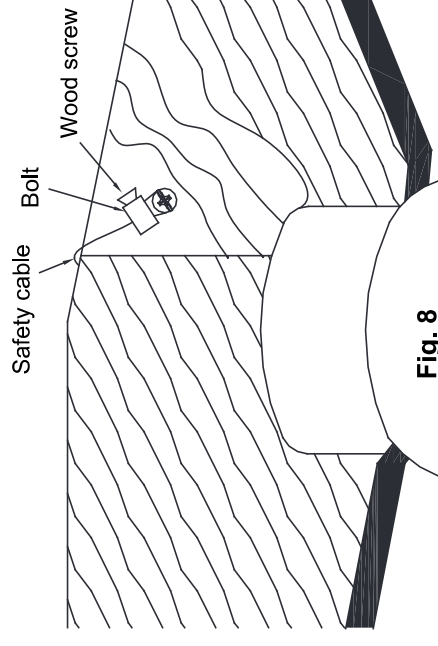

Fig. 8
Step 2. Insert the safety cable through the mounting bracket and one of the holes in the outlet box into the ceiling. Adjust the length of the safety cable to reach the screw and washers by pulling the extra cable through the cable clamp until the overall length is correct. Put the end of the cable back through the cable clamp, forming a loop at the end of the cable. Tighten the cable clamp securely. Now, put the loop in the end of the safety cable over the wood screw and under the washer. Tighten the wood screw securely (**Fig. 8**)